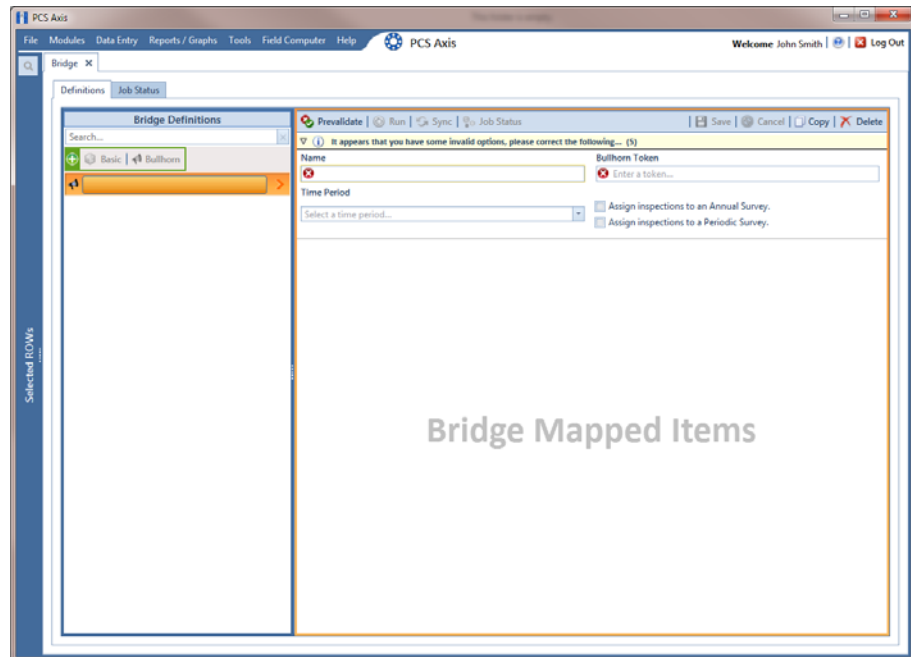

Figure 10-58. Bullhorn Definition Panel
- 3 Click  **Bullhorn** to open the Bullhorn definition panel (Figure 10-58).